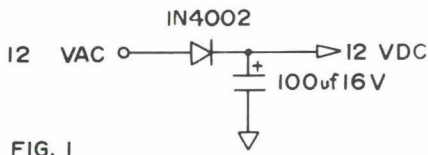

FIG. 1
- Bases—use appropriate figure 1, 2, 3.